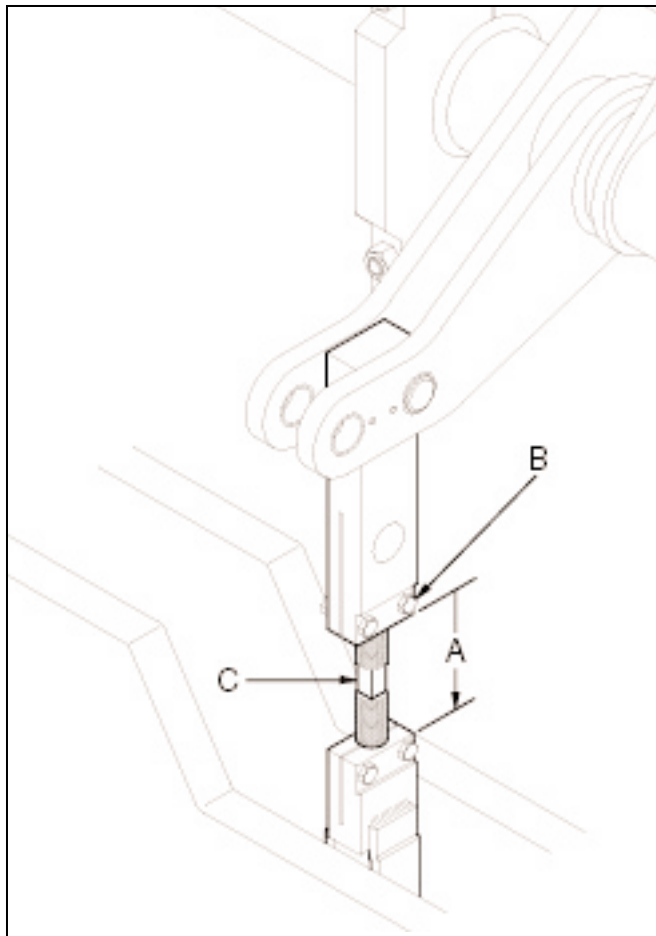

Figure 4.40 ADJUSTING STRIPPER HEAD LINKS
4.3.16 Adjust the stripper head links to a dimension of **3 5/8" [92mm]** (A) between link ends (see figure 4.40). To do so, loosen the two bolts (B) and turn up or turn down (C) with a wrench.